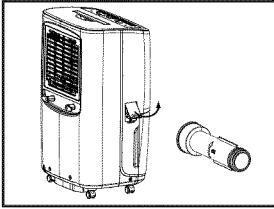

fig. 1
- a. Open the drain cover at the side of the unit and take out drainage joint from the top of the styrofoam packaging. (fig.1)